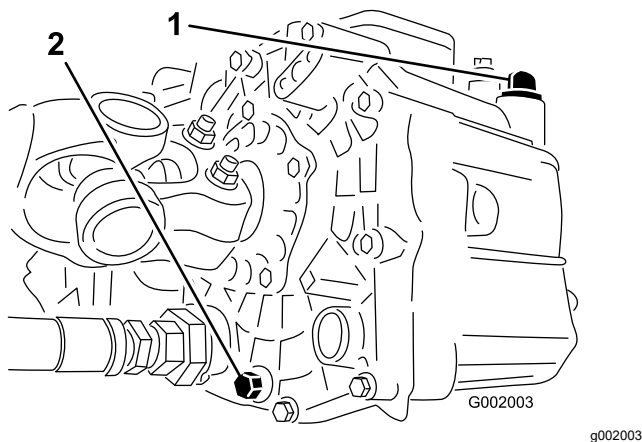

Figure 50
3. Remove the drain plug from the side of the reservoir, and let the hydraulic fluid flow into the drain pan (Figure 50).